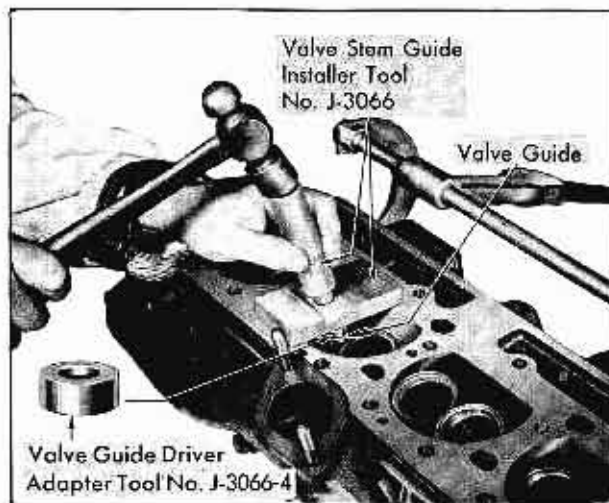

Fig. 10-9 Installing Valve Guides
1. Position Valve Stem Guide Installer, Tool No. J-3066, through plate and slide Valve Guide Adapter, Tool No. J-3066-4, on installer pilot, Fig. 10-9.